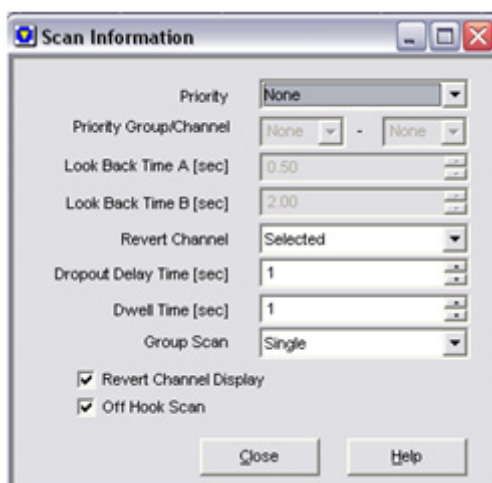

FIGURE 12. Scan Programming
2. Using Figure 12, configure the **Scan Information window** to set up the scan functionality.